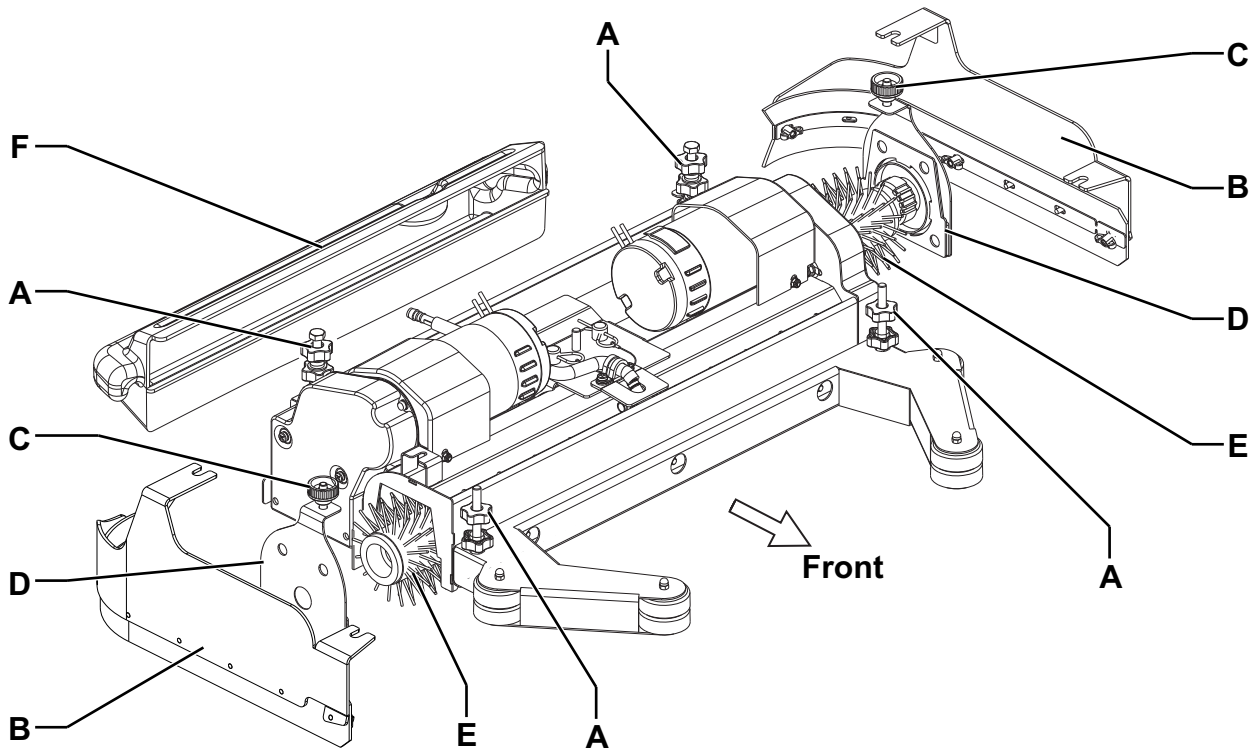

Figure 2
2. Lift the deck by pressing the switch (67).
3. Turn the ignition key (58) to "0" and remove it.
4. On both sides of the machine, unscrew the knobs (A, Fig. 2) and remove the side skirt assemblies (B).
5. Unscrew the knobs (C) and remove the lids (D) by pushing the knobs downwards.
6. Install the cylindrical brushes (E), or remove them to install new ones.